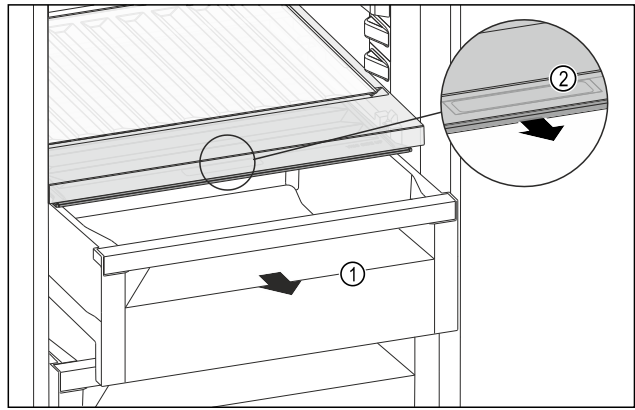

Fig. 155
- ▶ Pull out the drawer *Fig. 155 (1)*.
- ▶ Grasp the recessed grip *Fig. 155 (2)* on the compartment lid and pull the compartment lid forwards at the same time.